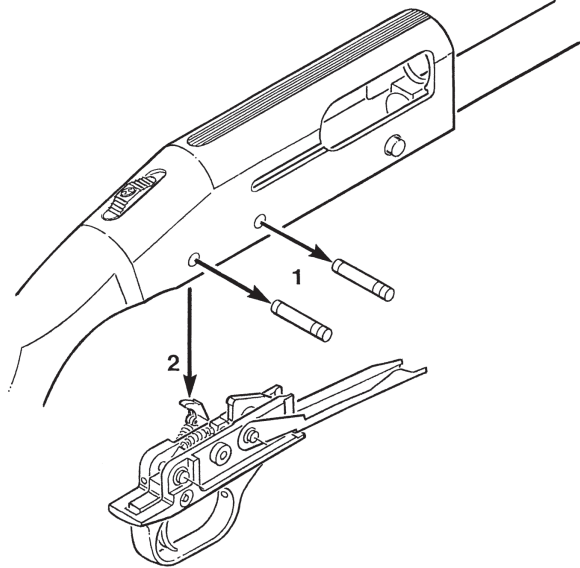

Figure 12
1. Push out the two trigger housing retaining pins using a punch no larger than 1/8" diameter (Figure 12). (The pins can be pushed out from either direction).
Clean all components of the action including the bolt, slide, and link (Figure 12) to remove accumulated residue. An evaporating solvent should be used. Action parts will remain cleaner, longer, if lubrication is used sparingly.